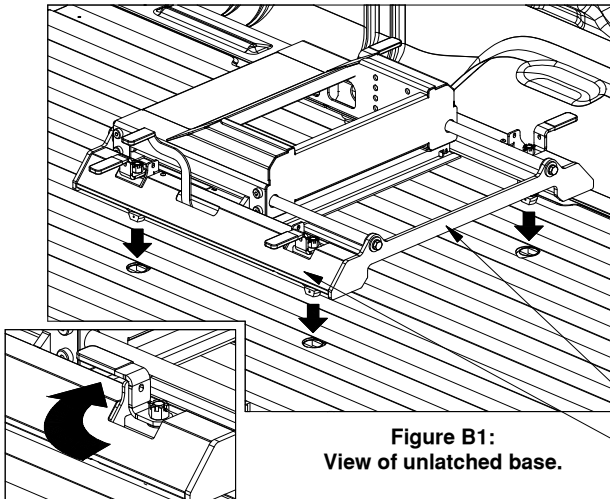

Figure B1:
**CAUTION:** Lifting the slider base under the sheet metal covers may cause damage to the base, grip base by end rail supports to lift, see Figure B1.
- Remove the latch pins from each side of the base and rotate the handles out, see figure B1. Place the base over the attachment points and carefully lower it until the latch cams pass through the floor and the base rests flat against the top of the attachment points.